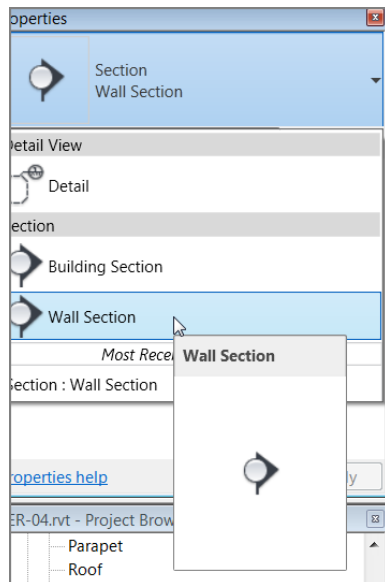

FIGURE 3.53: Changing the type of section from Building Section to Wall Section
3. In the Properties dialog box, select Wall Section, as shown in Figure 3.53.